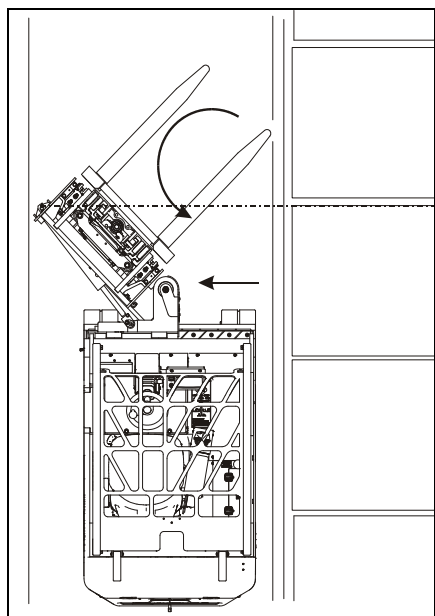

Figure 4-21: Back Up from the Load
11. Once the forks are in the "no load" position, shift the mast all the way to the left. See **Figure 4-21**.
12. Very slowly move the truck in reverse. At the same time, pivot the mast to the left (approximately 45°) to rotate the forks out of the pallet. **See Figure 4-21.**